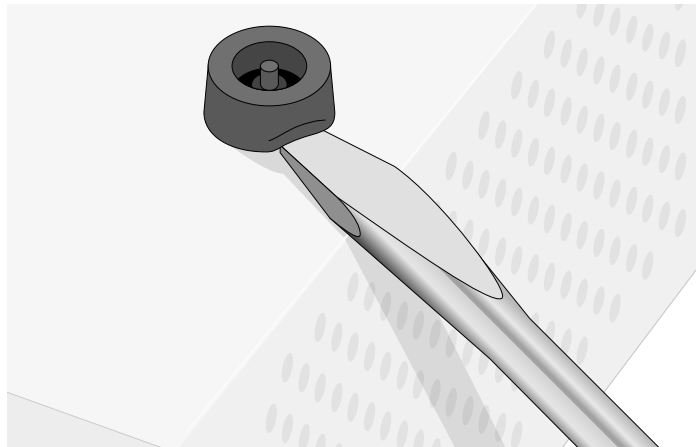

Figure 2-1 Removing the Feet
1. Remove the snap-on plastic feet, as shown in Figure 2-1.